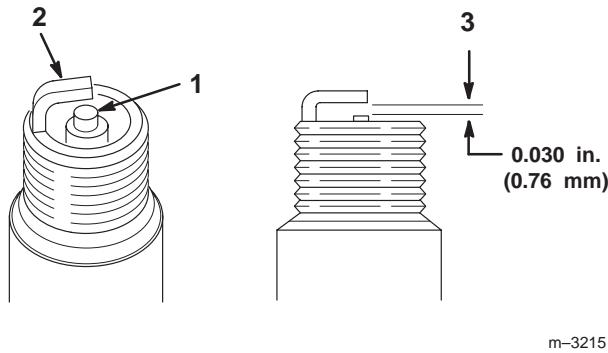

Figure 24
1. Look at the center of the spark plugs (Fig. 24). If you see light brown or gray on the insulator, the engine is operating properly. A black coating on the insulator usually means the air cleaner is dirty.
2. Check the gap between the center and side electrodes (Fig. 24).
3. Bend the side electrode (Fig. 24) if the gap is not correct.